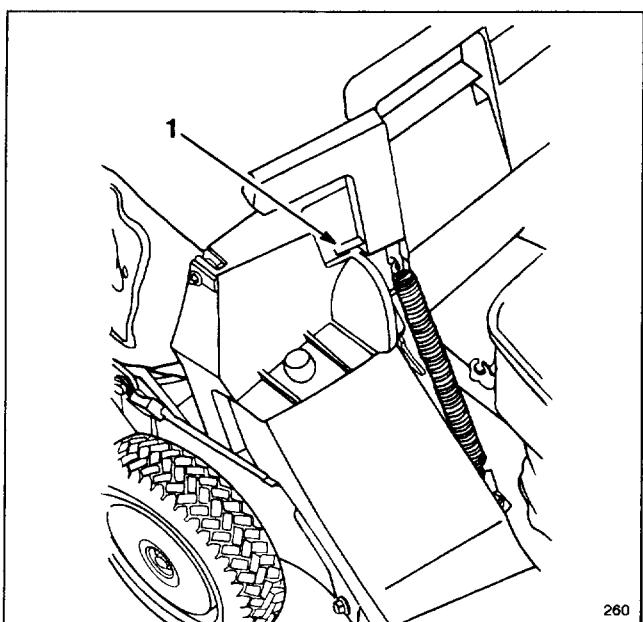

Figure 11
4. Pull discharge door handle forward until pin clears catch and move handle rearward until pin locks in bag notch (Fig. 11). Discharge door in mower housing is now open.